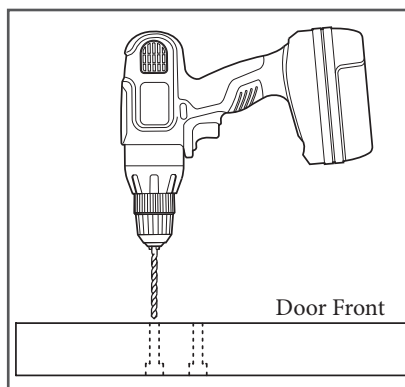

Figure 5
8. Turn the door over, returning it to the face-up position. Drill all the way through the pilot holes using a drill with a 1/4" drill bit (Figure 5).